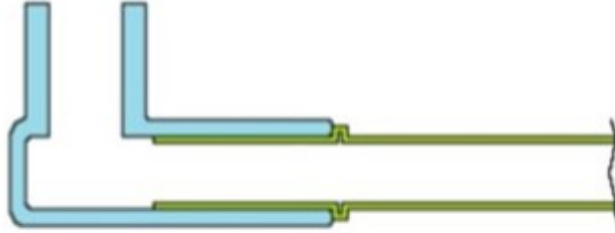
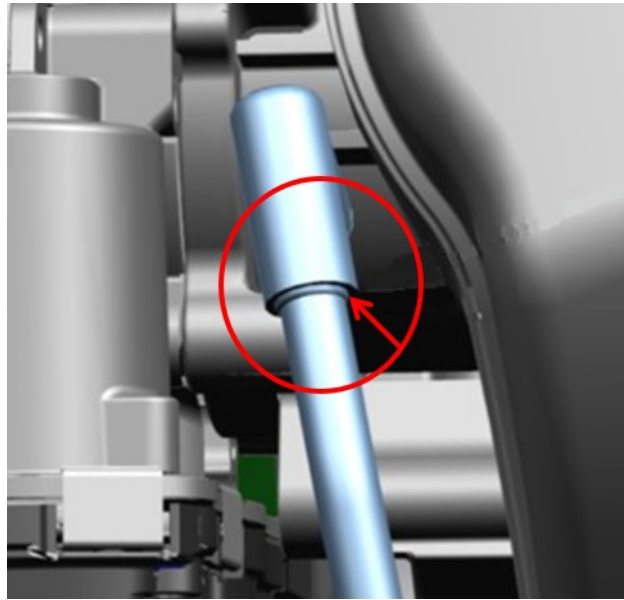

Fig. 4
Fig. 5
2. Pull the nylon tube from the rubber elbow until the bead is positioned at the edge of the elbow. Ensure that the elbow is seated properly at the intake manifold port. (Fig. 4) , (Fig. 5)